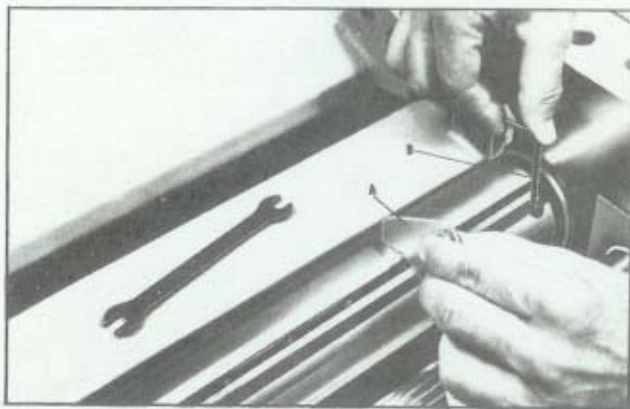

Fig. 29.
7. Place the knife gage (A) Fig. 29, over the knife and raise or lower knife by turning lifter screw with wrench (B) until the cutting edge of the knife touches the gage. Check both ends.